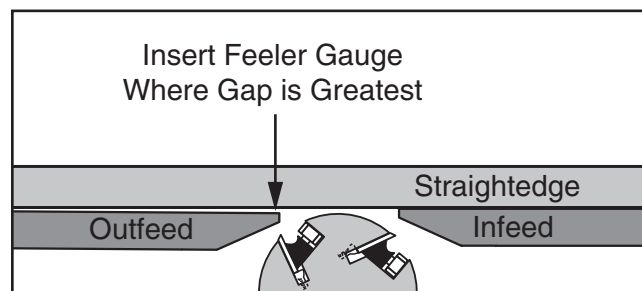

Figure 78. Example of feeler gauge location for checking table parallelism.
6. Insert feeler gauge between table and straightedge where gap is greatest (see **Figure 78**). Maximum allowable tolerance is 0.003".